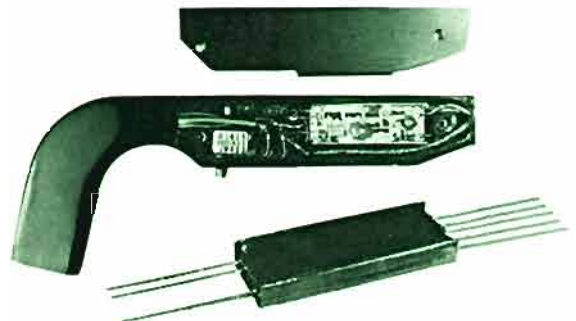

Figure 2. The Receiver circuit is encapsulated and fits in the spectacle frame, together with a trim pot and an earphone.
Figure 2 shows an encapsulated version of the custom thick-
film microcircuit developed for the Aid and a partially encapsulated microcircuit mounted inside one of the side arms of the frame. Also visible in Figure 2 is an adjustment potentiometer and the miniature earphone which produces the audible signal; it is coupled into the ear by means of a small plastic tube.
Finally, Mr. Phaneuf has suggested a 4-amplifier version with inherently positive polarity, using the differential inputs of the amplifiers (Figure 2). It should be noted, though, that either of the circuits mentioned above could also be non-inverting if the circuit were followed by a (fourth) inverting op amp.
Figure 2. Alternative bounding scheme without overall sign inversion. Reference voltages of  $-3V_L$  and  $3V_L$  may be impractical if bounds approach full-scale input voltage.
**PRODUCT NOTES** , , , In answer to a frequently asked question, the AD522 Instrumentation Amplifier will work in a socket wired for the popular AD521, but with these differences: (1) No  $R_G$  is necessary; use the AD522 gain equation to compute  $R_G$ . (2) The offset null pot for the AD522 must be wired to  $V_{S+}$  instead of  $V_{S-}$ ; if no offset pot is used, no change is required , , , Underwriters Laboratories has listed certain versions of our standard power supplies in UL Guide Q9F02. The supplies so designated and their standard equivalents are: 1054 + 920, 1055 + 902-2, 1056 + 904, 1057 + 905, 1058 + 903. For further information and prices, consult your local Analog Devices sales office.
**IN THE LAST ISSUE** , , , Vol. 10, No. 2 (1976) , , , Ultra-low-cost panel meter challenges analog meters (AD2026) , , , Versatile monolithic V/f or I/f converter (AD537) , , , Differential instrumentation amplifier is laser-trimmed (AD522) , , , Functional DPM for custom meter designs (AD2022) , , , Infra-low-power a/d and d/a converters use CMOS (ADCL121, DAC1122) , , , Protected analog switches are dielectrically isolated (AD7510DI family) , , , 12-bit data-acquisition system in a compact module (DAS1128) , , , dc/dc converters provide  $\pm 15\text{V}$ ,  $\pm 12\text{V}$ , +5V from 5V or 28V (Models 940 through 946) , , , Small, low-cost isolation amplifier with super specs (284J) , , , Application Briefs, Potpourri, Editor's Notes, V/f converter comparison , , , Several errata: p.12, figure 2, connection to transistor base missing; p.7, AD537 Performance Characteristics, under "Current-to-Frequency Converter", 9th line should read:  $f = 100\text{kHz}$  nominal; for consolidated (and slightly differing) linearity specs, see the AD537 data sheet; p.8, upper figures, designation next to pin 6 should be  $1\text{mV/K}$ .